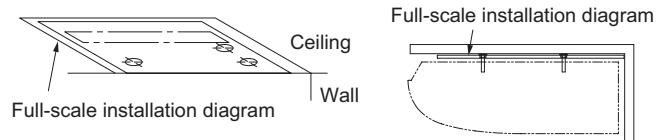

Fig. 1-189
- (1) If the full-scale installation diagram is placed on the ceiling, the locations of each suspension bolt can be chosen. Take a pencil and mark the drill holes (Fig. 1-189).